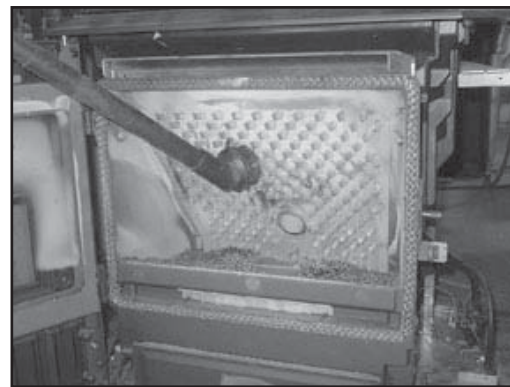

Figure 17.3
- Vacuum the ash from the heat exchanger with an upholstery brush to remove the majority of the ash. Be sure to vacuum the back of the baffle also. Inspect the drop tube and remove any residue build-up in the drop tube. **Figure 17.3.**